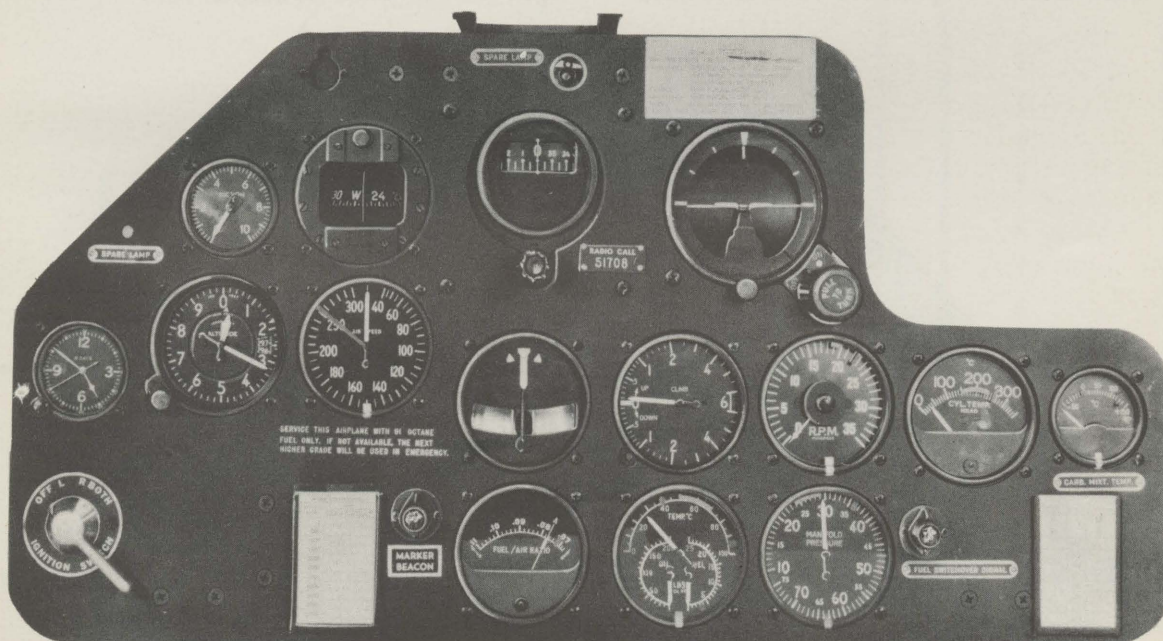

FIG. 39—FRONT COCKPIT INSTRUMENT PANEL
13. INSTRUMENTS (See figures 39, 40 and 41.)